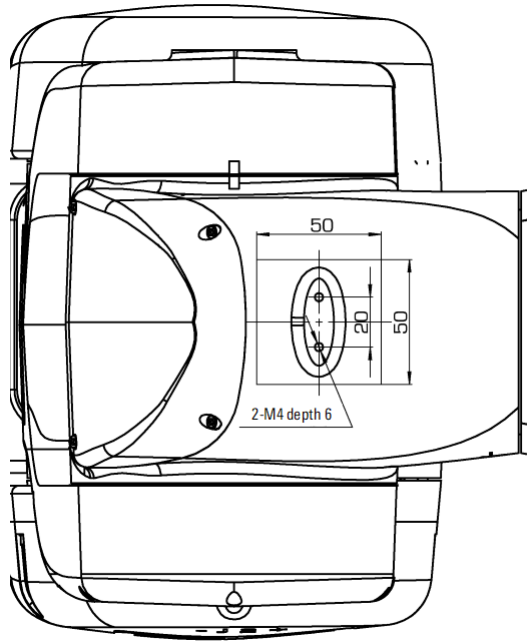

Figure 8-6 AIR8-710B type manipulator elbow load interface size diagram
The specifications and dimensions of the equipment mounting holes of the J3 axis elbow of the AIR8-710B type manipulator are shown in Figure 8-6.
- The position of the center of mass of the elbow load must be within the 50mm×50mm area shown in Figure 8-6.